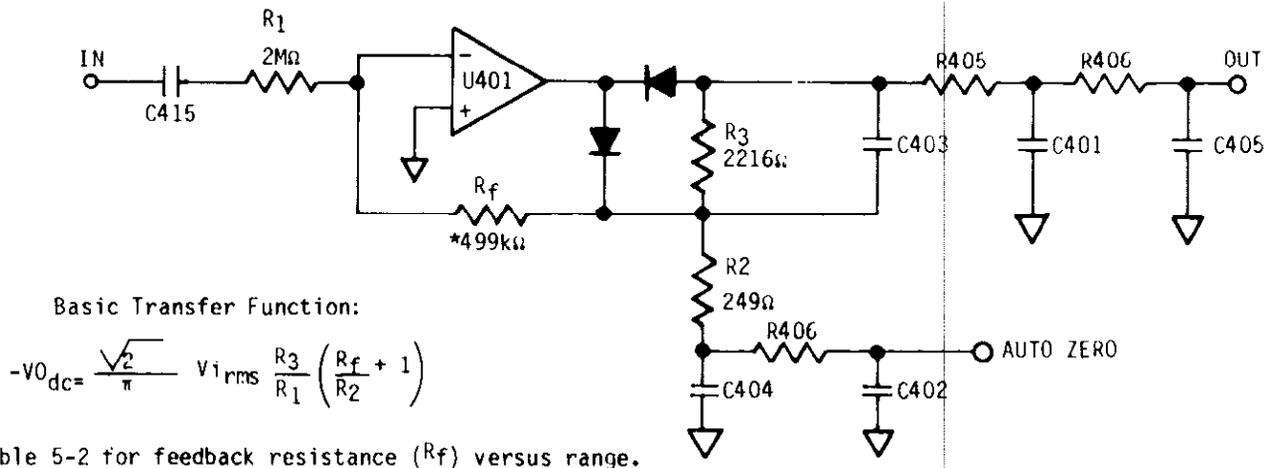

FIGURE 5-18. Simplified Schematic of Model 1910.
5-54. The Model 1910 is basically a plug-in ac/dc converter with variable gain that conditions the ac input voltage for application to the A/D converter. The basic transfer function of the ac/dc converter is shown on the simplified schematic (Figure 5-18). The resistor values were selected so that $1 \text{ Vac}_{\text{rmsIN}} = -1 \text{ Vdc}_{\text{OUT}}$. For ac input voltages above 2 volts, the feedback resistance (R_f) is reduced (by selection of a higher range) to keep the output always less than -2Vdc. The dc output is a half-wave rectified sine wave, and the converter is average responding, calibrated to the rms value of a sine wave. Capacitor C415 blocks dc inputs, and the dc offset voltage of the amplifier is autozeroed out. Output filtering is provided by the combination of resistors R404-R406 and capacitors C401-C405.
*See Figure 5-18.